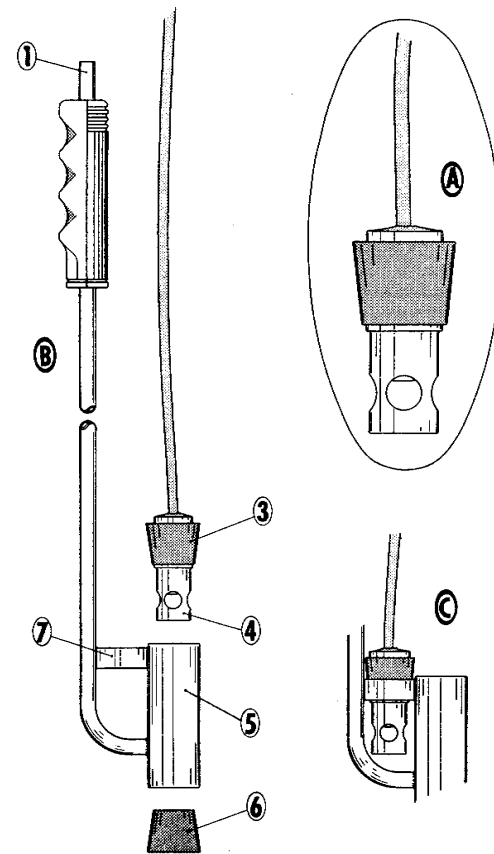

Figure 3
1. Prepare the probe for operation as described in the previous section. When using YSI 5418 and 5419 probes, the YSI 5075 Calibration Chamber is recommended for calibration because it conditions fresh air, which is the standard being used, to the temp of the water to be sampled. The chamber (See Figure 3) consists of a 4-1/2' stainless steel tube (1) attached to a calibration chamber (5) and a measuring ring (7). Insert the solid rubber stopper (6) into the bottom of the calibration chamber (5). Push the probe (4) through the hollow rubber stopper (3) as shown in Detail A. For maximum accuracy wet the inside of the calibration chamber (5) with your finger. This creates a 100% RH environment for calibration of the probe. Now insert the probe-stopper assembly in the top of the calibration chamber.